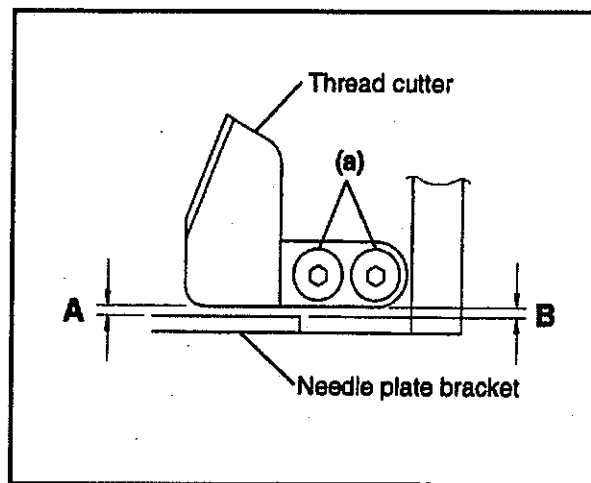

FIG.1
- (1) Loosen two retaining screws (a) (Fig.1).
- (2) Position the thread cutter parallel with the needle plate bracket, and retighten retaining screws (a) (Fig.1).
- (3) Attach the needle plate.